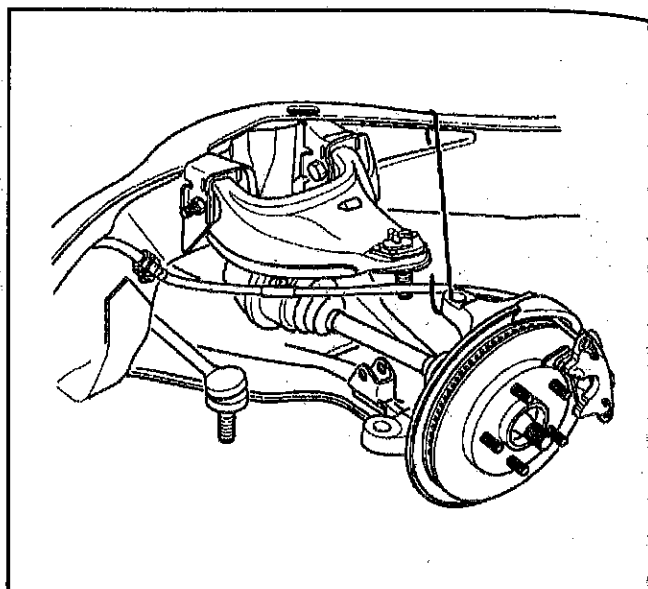

Figure 33—Suspending the Knuckle
- B. Suspend the knuckle from the upper control arm to prevent straining the brake line (Figure 33).
9. Stud from knuckle (Figure 33).